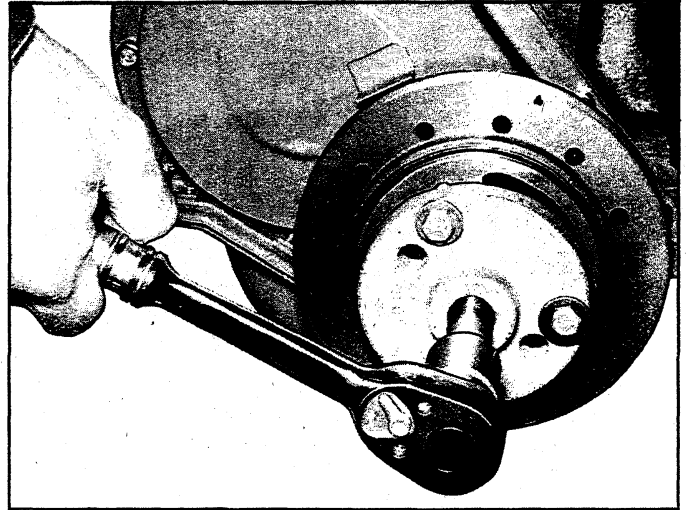

Fig. 9L - Removing Torsional Damper
3. Install Tool J-6978 to damper and turn puller screw to remove damper (fig. 9L). Remove tool.